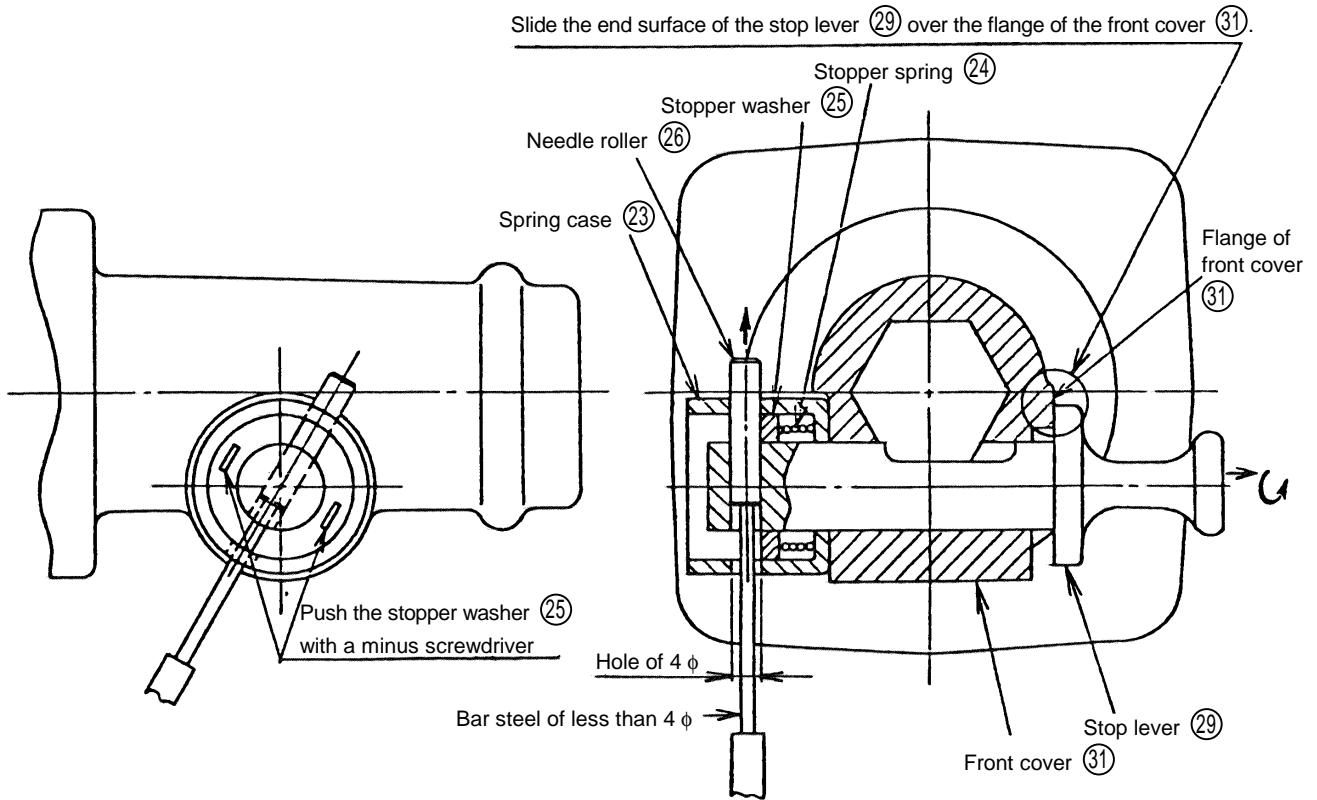

Fig. 7
As shown in Fig. 7, mount the stop lever end surface on the flange of the front cover (31) and push the stopper washer (25) with the minus screwdriver to contract the stopper spring (24). Adjust the holes of the stop lever and spring case (23), and insert the needle roller (26).